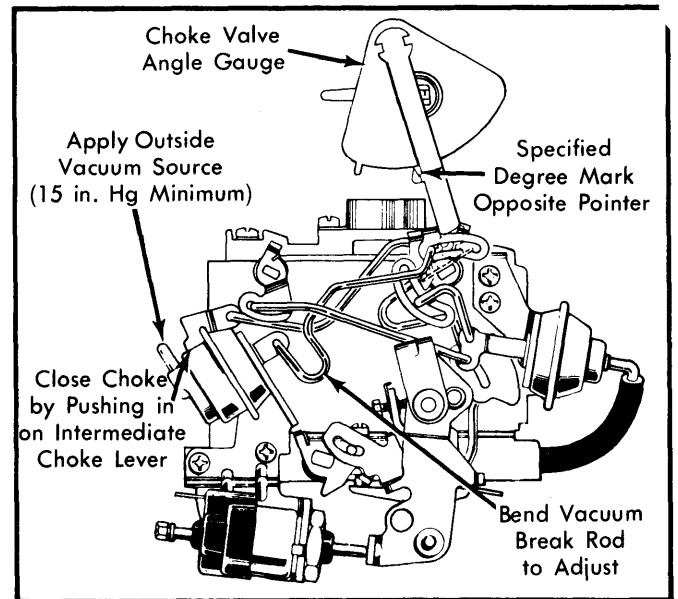

Fig. 8 Adjusting Secondary (Rear) Vacuum Break
- 1) Using an outside vacuum source of at least 15 in. Hg., seat secondary choke vacuum break diaphragm. See Fig. 8.